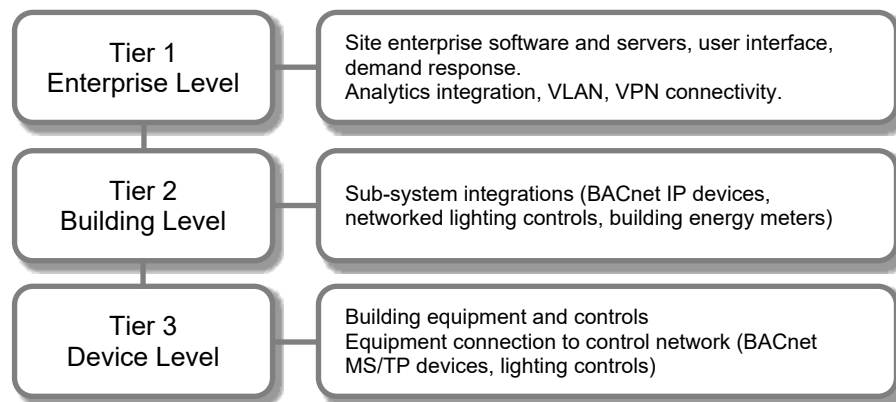

Figure 25 10 02 – 1: Three-Tier Network Architecture
- A. General. The network shall utilize a three-tier architecture model as shown in Figure 25 10 02-1 below.